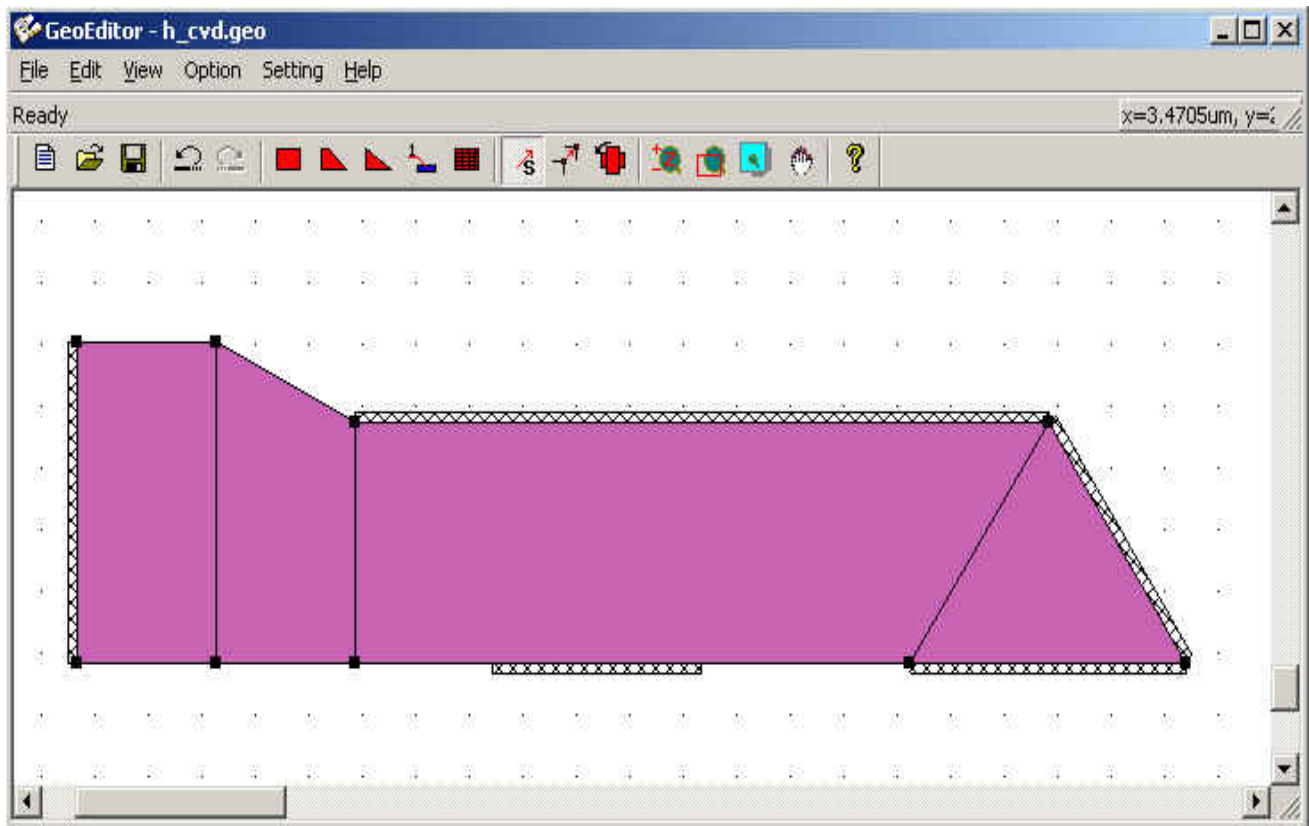

Figure 1: Use of GUI program GeoEditor to set up a simple test structure of a horizontal MOCVD reactor.
- 1) Figure 1 illustrates the use of GeoEditor to set up a test structure of a horizontal MOCVD reactor. Gas inlet/outlet, substrates and hot/cold wall are treated as boundaries.